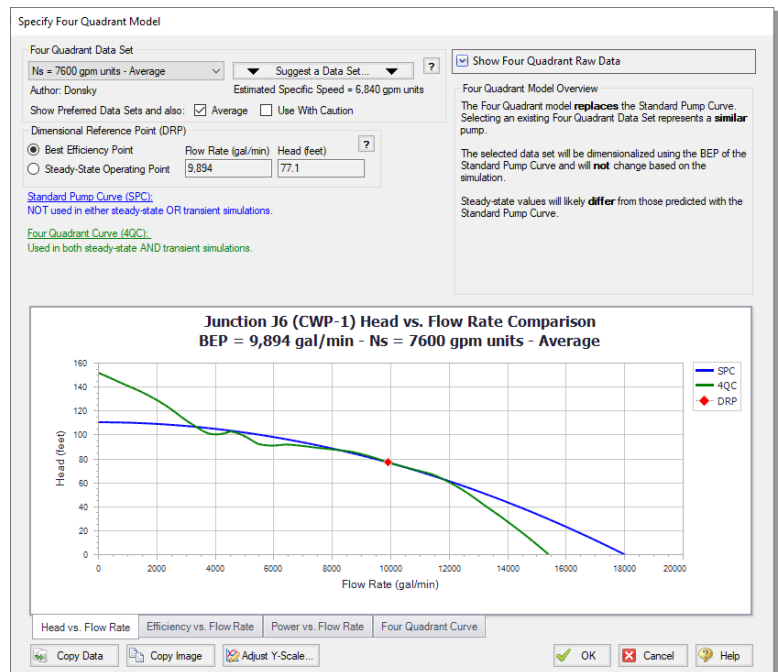

Figure 4.6 The Specify Four Quadrant Model window can be used to select and view options for the dimensionalized four quadrant data set
5. The specific speed is estimated to be 6,840 gpm units, and the suggested data set is $N_s = 7600$ gpm units. Click Select Suggested Data Set and Close. The $N_s = 7600$ gpm units data set will now be selected, and the dimensionalized curve will be displayed against the previously entered Standard Pump Curve (Figure 4.6).